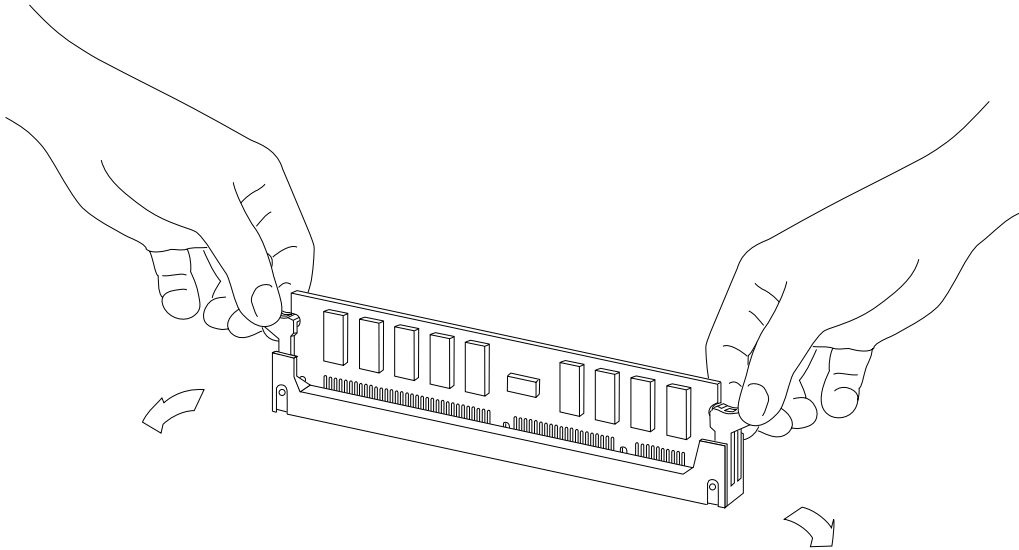

FIGURE 3-13 Ejecting a SIMM
4. Eject the faulty SIMM by pressing down on the ejection levers on both sides of the SIMM connector (FIGURE 3-13).